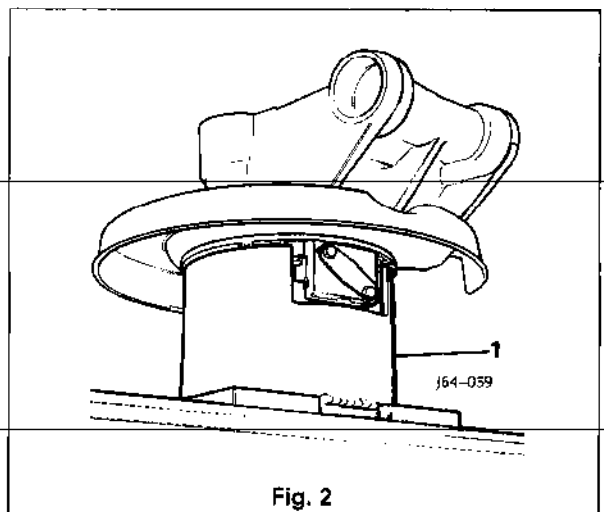

Fig. 2
- Using Hub tool JD 132 - 1 (1 Fig. 2) and a suitable press, align the hub assembly to the tool ensuring the hand brake expander locates into the tool cut out.